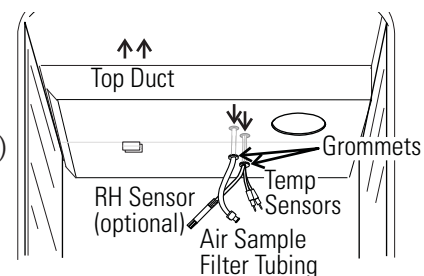

Figure 6-3. Feed Through Holes
13. Install the top duct by feeding the temperature sensors, air sample tubing (and RH sensor, if applicable) through the appropriate holes in the duct as it is raised to the top of the chamber. Be careful not to pull the grommets through the duct. See Figure 6-3.